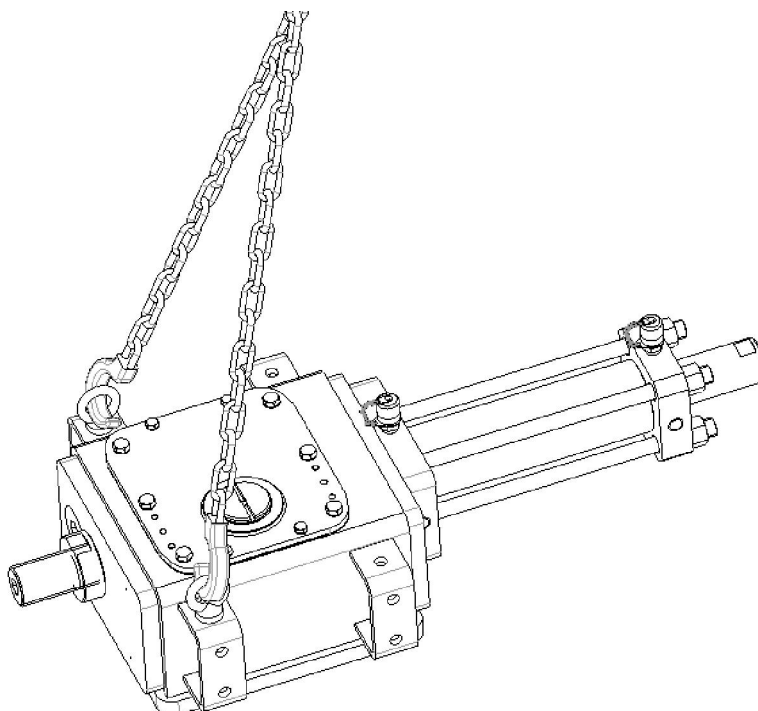

Fig. 2 – Lifting points for RTCH actuator series
Warning: Lift the actuator as shown in Fig.2.
- Conditions in which the machinery meets the requirement of stability during use, transportation, assembly, dismantling when out of service, testing or foreseeable breakdowns, are shown in Fig.2.